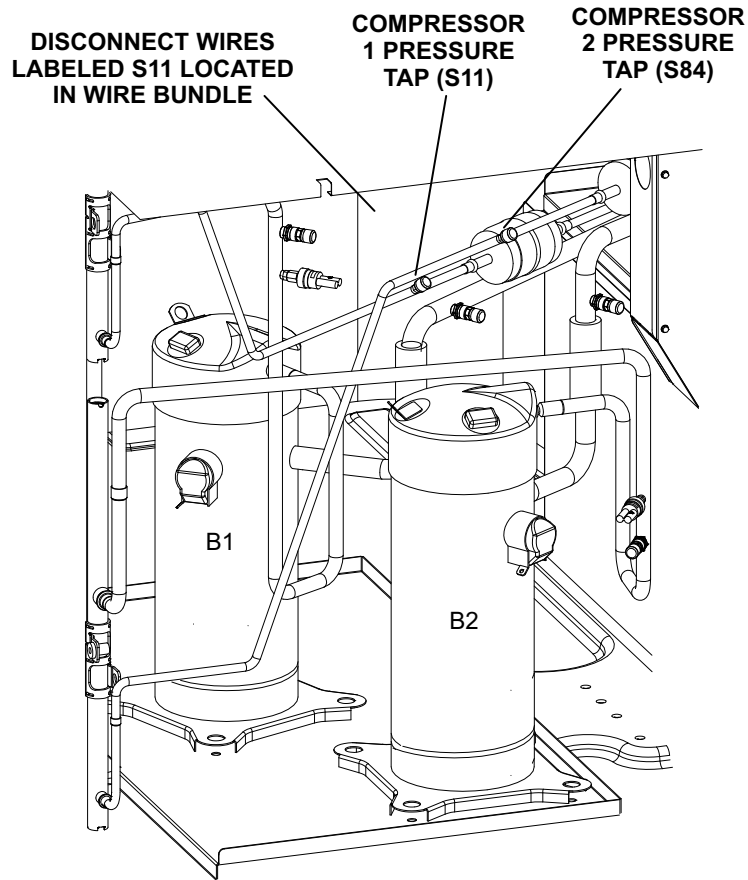
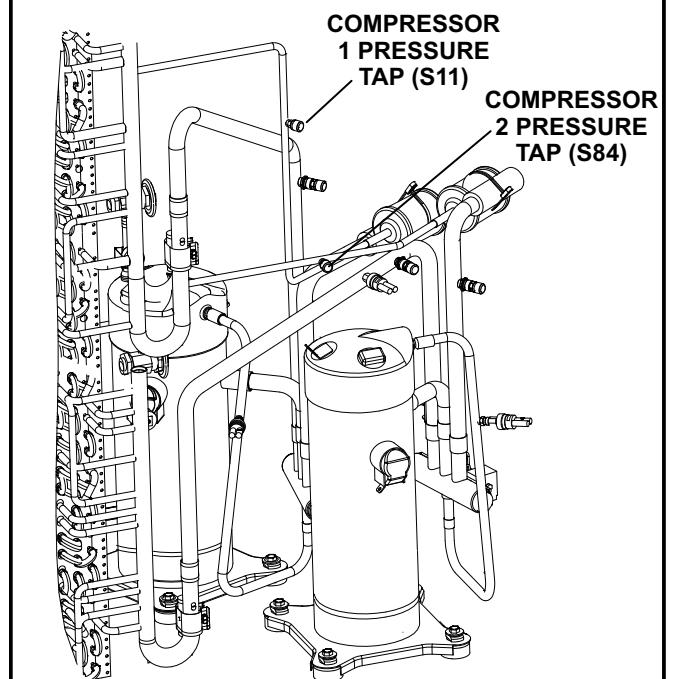

FIGURE 9
FIGURE 10
- 2- Install valve depressor tee on liquid line pressure taps. See figure 9 for ZG/ZC units and figure 10 for ZH units. Install pressure switches on valve depressor tee.
- 1- Disconnect wires marked S11 as shown in figure 9.